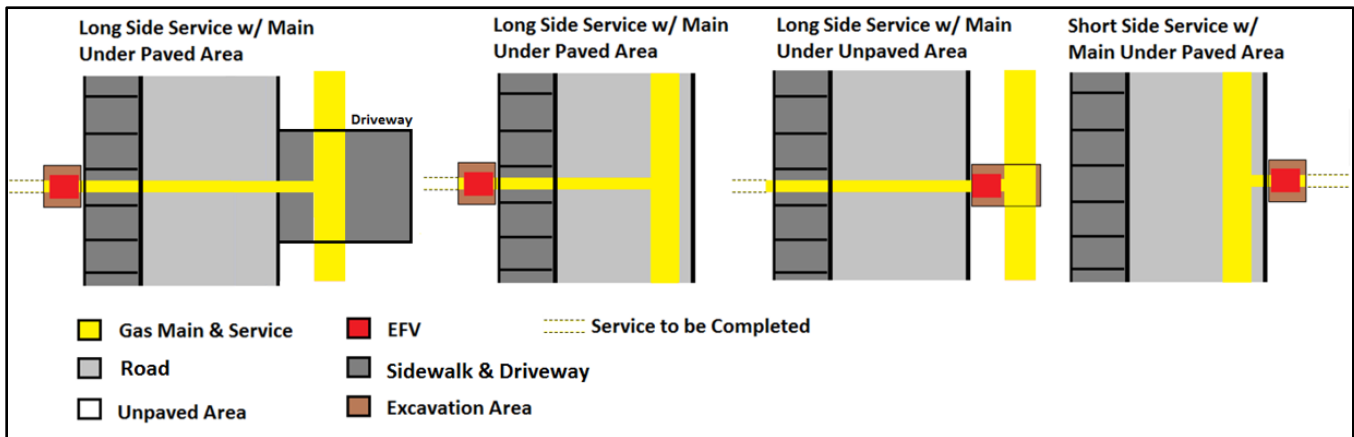
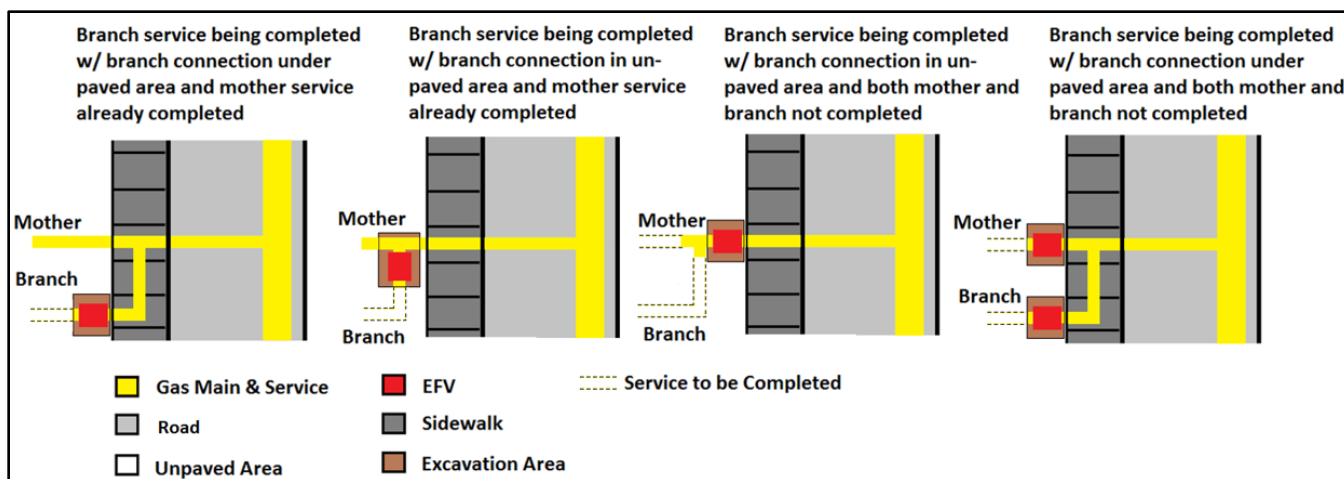

Figure 2. EFV Locations on Common Installation Scenarios
Figure 3. EFV Locations on Common Branch Installation Scenarios
- (1) When completing an existing stub that is missing an EFV, install the EFV at the nearest non-paved point to the gas main or at the main. See Figure 2 and Figure 3 for EFV locations on common installation scenarios.
- (1) If there is **no** EFV upstream of the branching point, install an EFV at the non-paved point nearest to the branching point.
- (2) If there is an existing EFV upstream of the branching point, ensure it will protect the entire length of the completed service and it has adequate capacity for both meter sets.
- (3) See Figure 3 for EFV locations on common branch installation scenarios.
- (1) Select a 1/2" EFV per Table 9, and install the EFV at the appropriate location per Figure 2 and Figure 3. Use 1" plastic pipe for the remainder of the service completion.
- (2) If a 1/2" EFV series does not meet the customer loads as described in Table 9, upsize the stub, EFV, and service completion to 1" plastic and size the EFV accordingly.
- (3) If the stub completion requires more than 150' of 1" piping, contact standards engineering personnel for guidance or variance options.